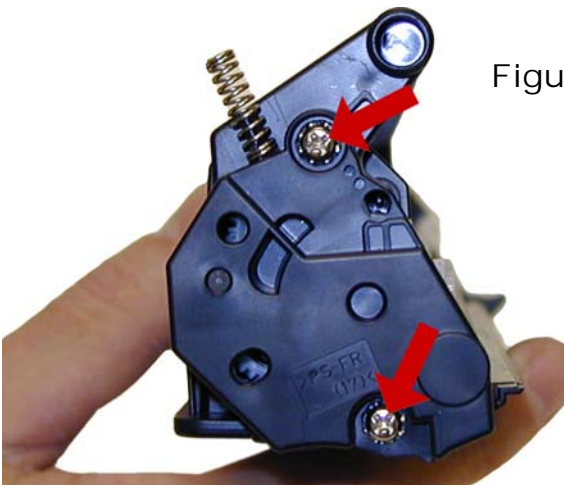

Figure 33
25) Install the end cap and screws. See **Figures 33**